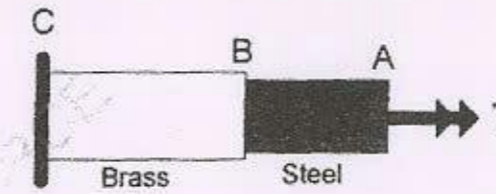

Fig. 4
- b) Find the slope and deflection at end C of the beam shown in fig. 4. [10]
b) Two rods, steel (AB) of diameter 38 mm and brass (BC) of diameter 46 mm connected together as shown in Fig. 4. If allowable shear stresses in steel and brass rods are 104 MPa and 55 MPa, find largest torque T applied at A. [12]